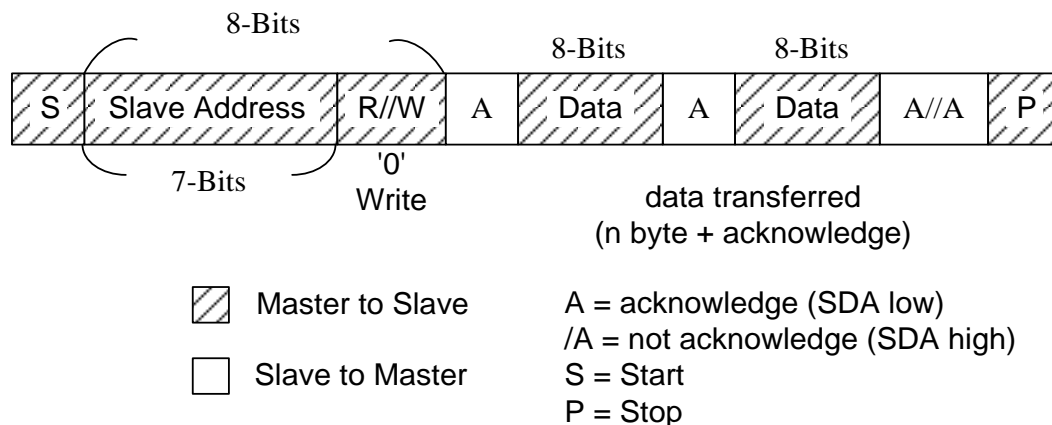
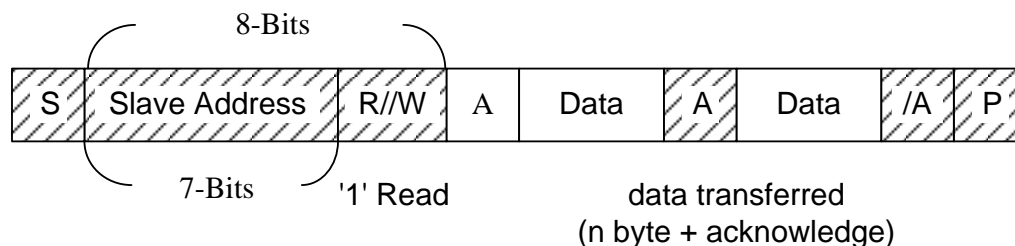

Figure 6-33 7-Bit Slave Address in Master-transmitter transmits to slave-receiver
Figure 6-34 7-Bit Slave Address in Master receiver read slave-transmitter
Master reads slave immediately after first byte. At the moment of the first acknowledge, the master-transmitter becomes a master-receiver and the slave-receiver becomes a slave-transmitter. This first acknowledge is still generated by the slave. The STOP condition is generated by the master, which has previously sent a not-acknowledge (A). The difference between master transmitter with master receiver is only in R/W bit, if the R/W bit were "0", the master device would be transmitter; the other way, the master device would be receiver. The master transmitter is described by the figure 6-33 "7-Bit slave address in Master-transmitter transmits to slave-receiver", and the master receiver is described by figure 6-34 "7-Bit slave address in Master-receiver read slave-transmitter"